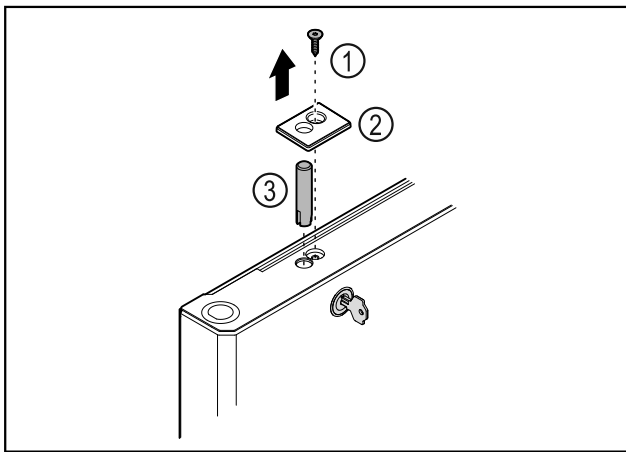

Fig. 45
- ▶ Remove the screw Fig. 45 (1).
- ▶ Unlatch the cover Fig. 45 (2) with a small screwdriver and remove it.
- ▶ Pull out the lock bolt Fig. 45 (3).